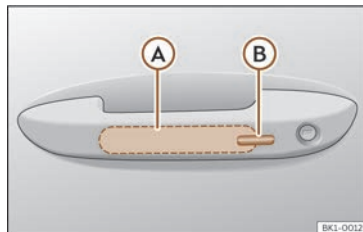

Fig. 69 Driver door lever: sensor surfaces.
>>> **Fig. 69**
- Touch the sensor surface >>> **Fig. 69** (B) on the outside of the door handle. All turn signals flash once.
- Within 5 seconds, touch the sensor on the outside of the door handle >>> **Fig. 69 (B)** once. Do not grip the handle while doing so. This temporarily deactivates the Keyless Access system.
To close all the electric windows and the sunroof using the **comfort function**, keep a finger for a few seconds on the locking sensor surface >>> **Fig. 69 (B)** of the door handle until the windows and roof have closed.